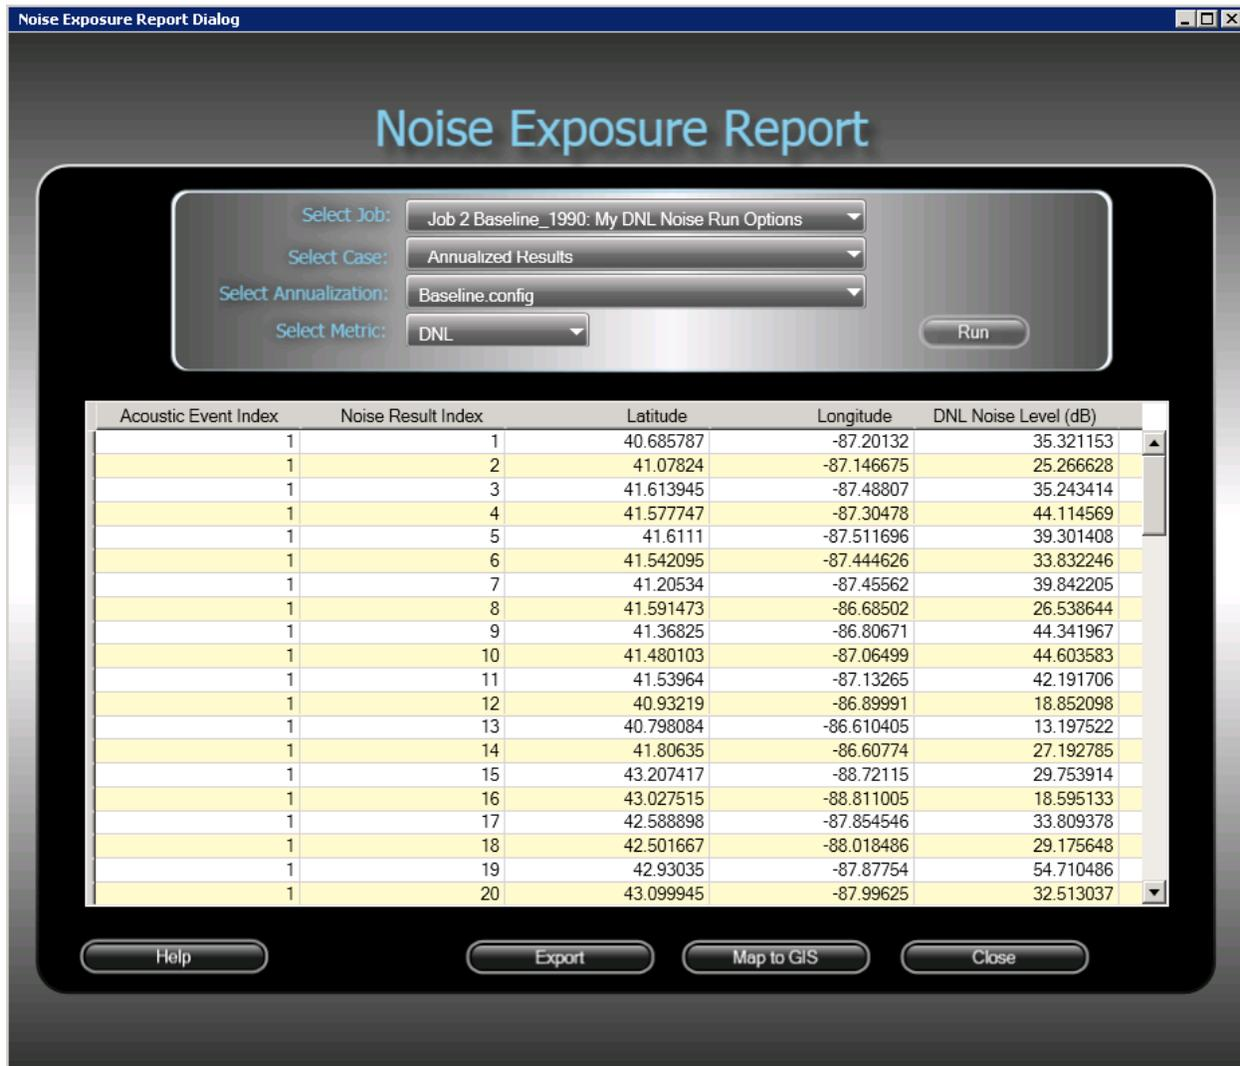

Figure 8-18 Noise Exposure Report Dialog Box
2. In the *Noise Exposure Report* dialog box (Figure 8-18) select a *Job, Case*, and *Metric* from the drop-down menus.